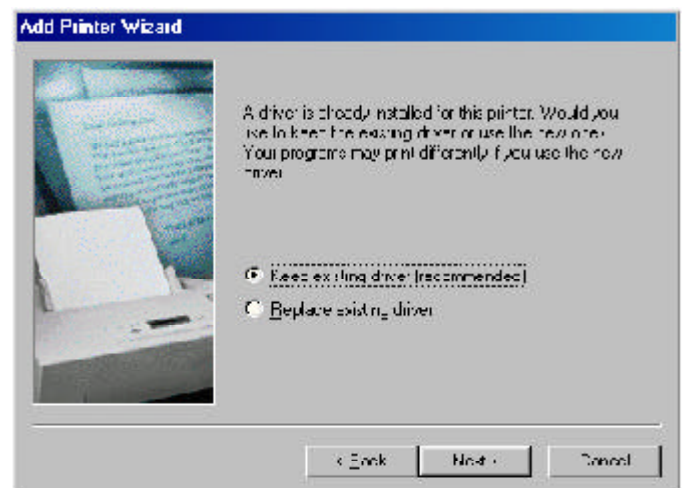

Fig. 4.16
Step 22 If a driver for the printer is already installed, select **Keep existing driver** and click **Next**. See Fig. 4.16